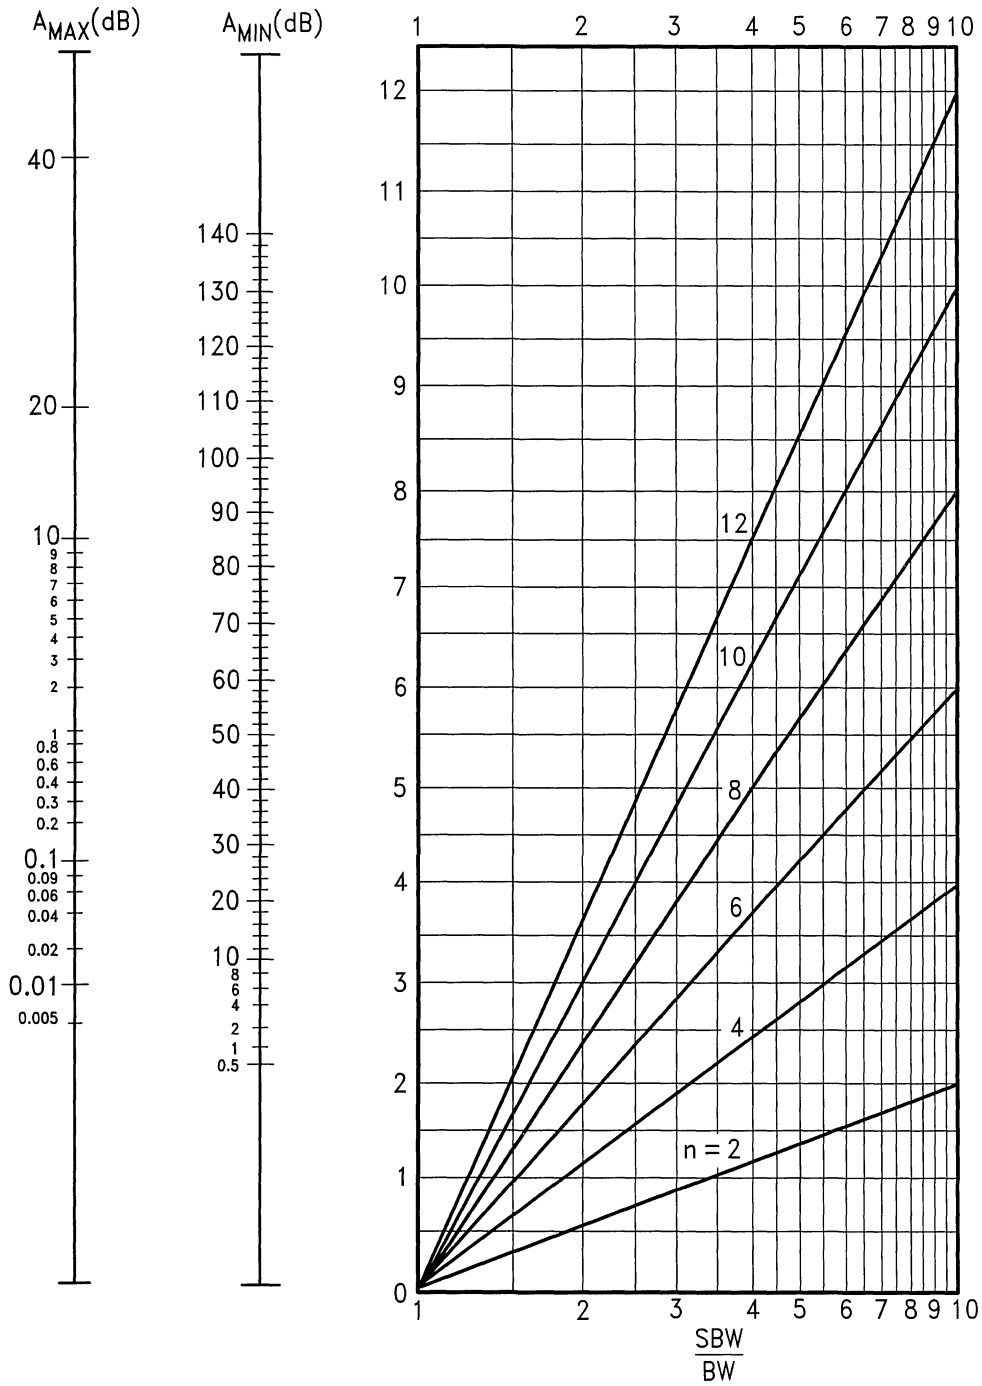
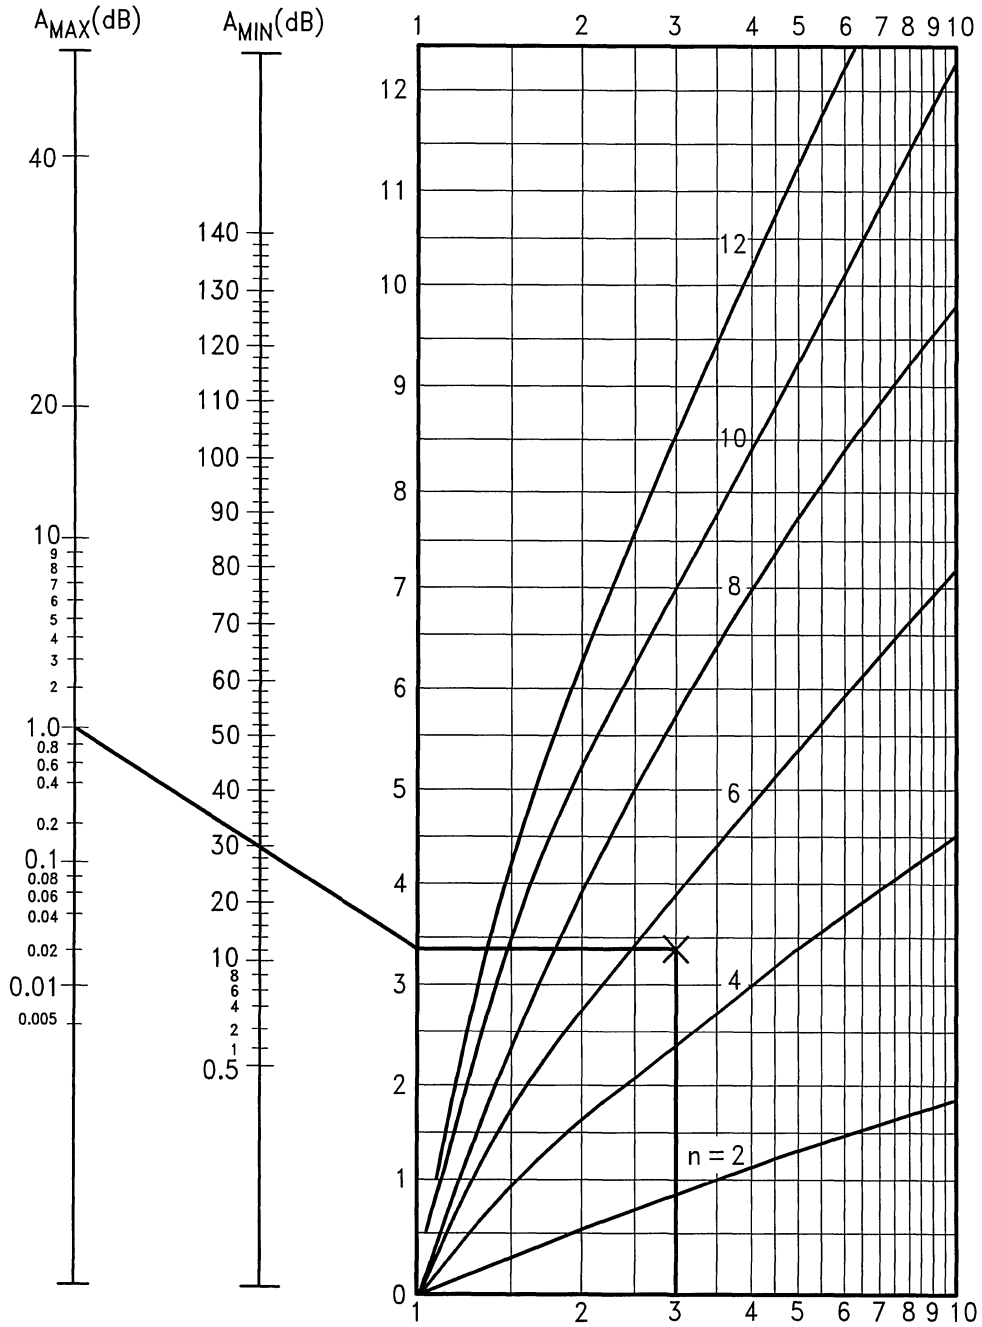

FIGURE 8. Butterworth Bandpass Filter Design Nomograph
FIGURE 10. Example of Chebyshev Bandpass Nomograph Use.
3) Determine the filter order necessary to meet the response requirements defined above. This may be done with the aid of the nomographs in *Figures 8 and 9* for Butterworth and Chebyshev filters. To use the nomographs, draw a line through the desired values on the A_{MAX}/A_{MIN} scales to the left side of the graph. Draw a horizontal line to the right of this point and mark its intersection with the vertical line corresponding to the required ratio SBW/BW. The required filter order will be equal to the number of the curve falling on or just above the intersection of the two lines. This is illustrated in *Figure 10* for a Chebyshev filter with 1 dB ripple, 30 dB minimum attenuation in the stopband, and $SBW/BW = 3$. From the *Figure*, the required filter order is 6.